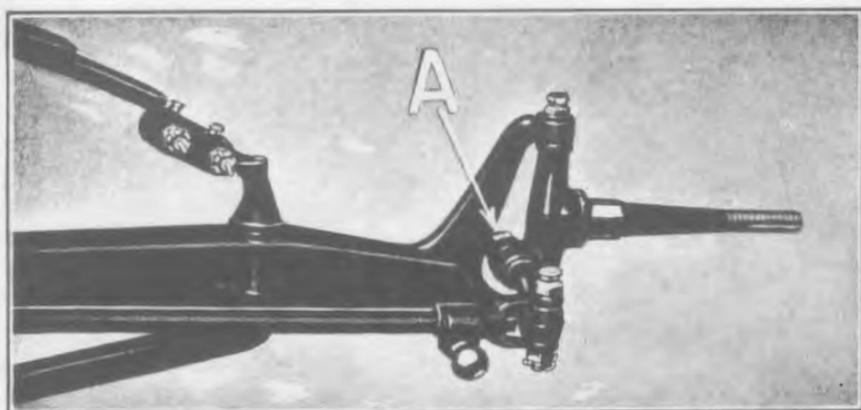
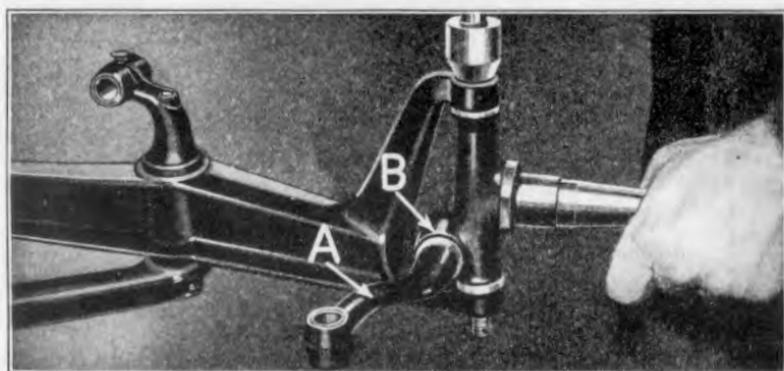

Fig. 370
Fig. 371
- 686** Examine spindles and spindle arms for alignment and wear. If arm is sprung or badly worn where it fits into spindle, a new arm should be installed. To remove arm from spindle, run off spindle arm nut (See "A" Fig. 370). If the arm cannot be removed from spindle by tapping it with a lead or copper hammer, it should be pressed out on an arbor press. Spindles and spindle arms are made in rights and lefts (the spindle arm right is stamped T-280; spindle arm left is stamped T-281). The arms are assembled to the spindles with the offset in the arm (See "A" Fig. 371) facing up and pointing in. The spindle body is assembled to the axle with the spindle pointing outward and the chamfered side of the arm hole "B" facing rear of car.
- 689 Position spindle on axle, oil spindle bolt and insert it through axle and spindle, running the bolt down into lower side of axle (See Fig. 371). The bolt is then drawn down until the correct tightness is obtained; this can be checked by turning the spindle back and forth by hand. A slight resistance should be felt when moving the spindle. When the correct adjustment is obtained run on the spindle bolt nut, drawing it down tightly against axle, and locking the nut with a cotter key.